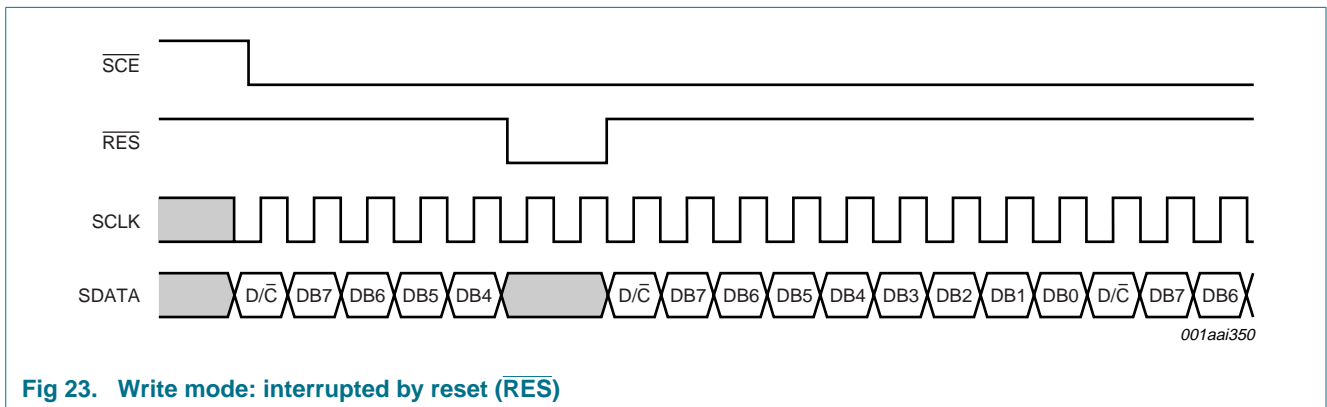

Fig 23. Write mode: interrupted by reset (\overline{RES})
- A reset pulse \overline{RES} interrupts the transmission. The data being written into the RAM may be corrupted. The registers are cleared. If \overline{SCE} is LOW after the rising edge of \overline{RES} , the serial interface is ready to receive the D/\overline{C} bit of a data/command byte; see Figure 23.